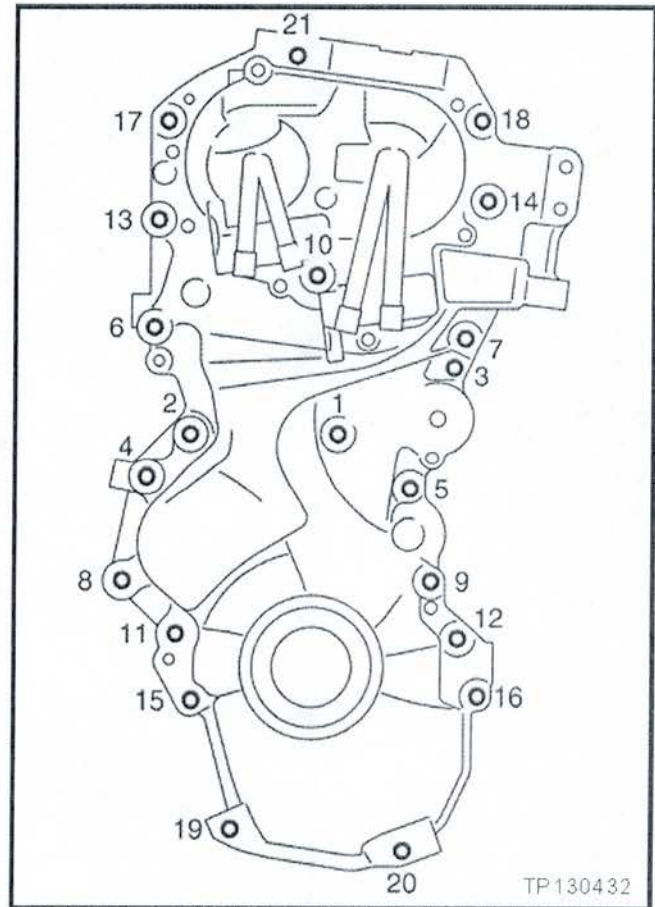

Figure 45
59. Install the front cover bolts shown in Figure 45.